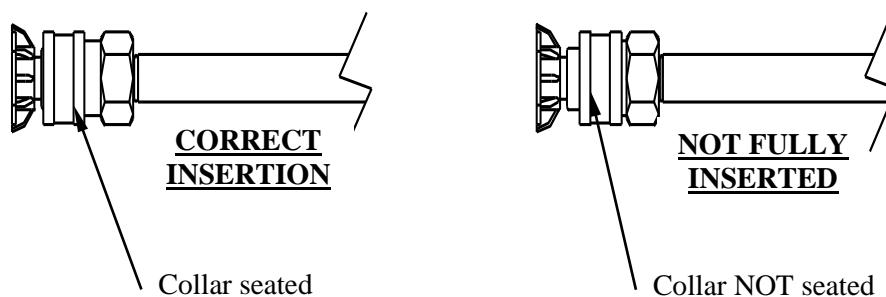

Figure 9b
3. Release the collar, making sure it springs back and re-seats to its original (non-retracted) position. (Figure 9b). *Check the connection by pulling on the nozzle to ensure a tight connection -- if correctly inserted, nozzle will rotate but not pull out.*